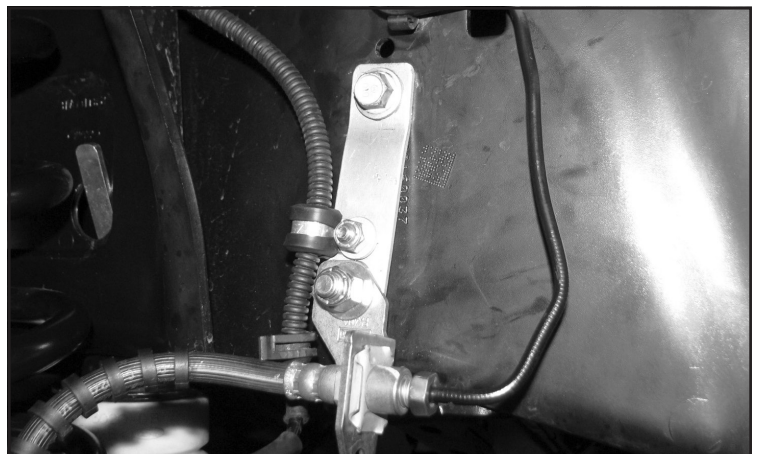

FIGURE 27 - STEP 27
27. **(PASSENGER SIDE)** Install FT30659 (Brake line bracket) to the factory brake line tab using the supplied 3/8" hardware (Use lower hole). Next, using the supplied rubber clamp and 1/4" hardware, attach the ABS line to the upper hole on the FT30659 bracket. Re attach to the frame using the factory hardware. Torque 3/8" & factory hardware to 52 ft-lbs. Torque 1/4" hardware to 14 ft-lbs. **SEE FIGURE 27**
36. Locate the breather hose on the rear axle tube. Detach the fitting from the tube and remove the factory brake line bracket. then install the new FT31135 (Brake Line Bracket) in its place. Install the factory bracket to the new Fabtech bracket using the supplied 3/8" hardware. Torque to 32 ft-lbs. **SEE FIGURE 27**